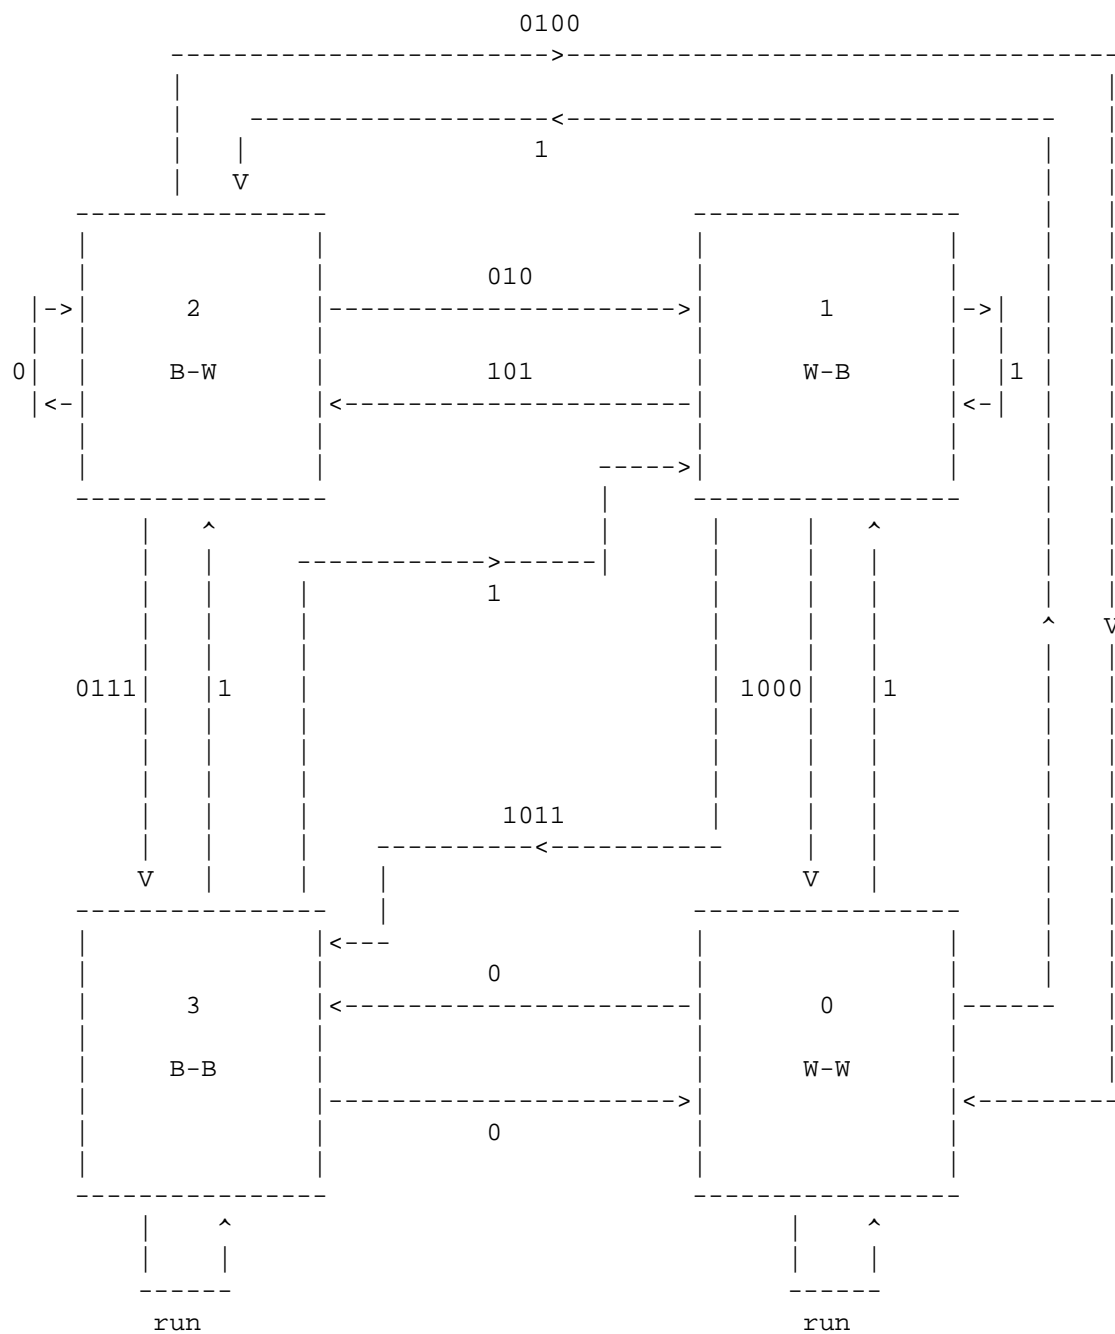

Figure 1.
The encoding algorithm can be described in terms of a non-deterministic finite-state automaton shown in Fig. 1 (after Mills [2]). You start out in a state (0-3) and transform to another state by emitting the appropriate bits marked along the arcs of the diagram. For example, suppose you are in state 1 (WB). To go to state 2 (BW), you would output the bits 101 (binary); to go to state 0 (WW) you would output the bits 1000. Note that the number of bits on each transition is variable.